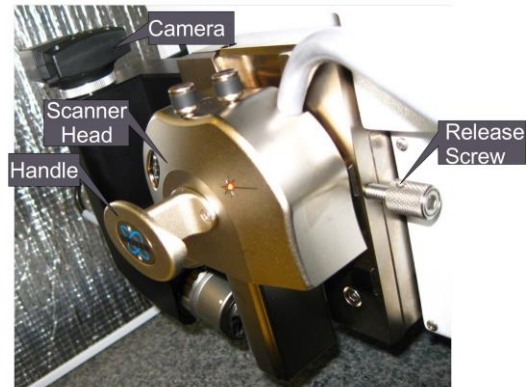

Figure 3. Dim Icon Scanning Head dovetail rail.
- 9) Unlock the scanner head by carefully gripping the head by the handle (Figure 3) and loosening the screw on the right side of the head, Figure 3 & 4. One or two turns should be enough. There is no need to turn the screw all the way out. Lift the head out of the dovetail rail. The scanner head should always be mounted on the dovetail rail unless you are loading the probe holder. If it is not, contact a GLA.
surface and the tip reflection. Then set the focal plane at the tip reflection iii) Do not touch the camera (Figure 3 or 4) it should not be moved.